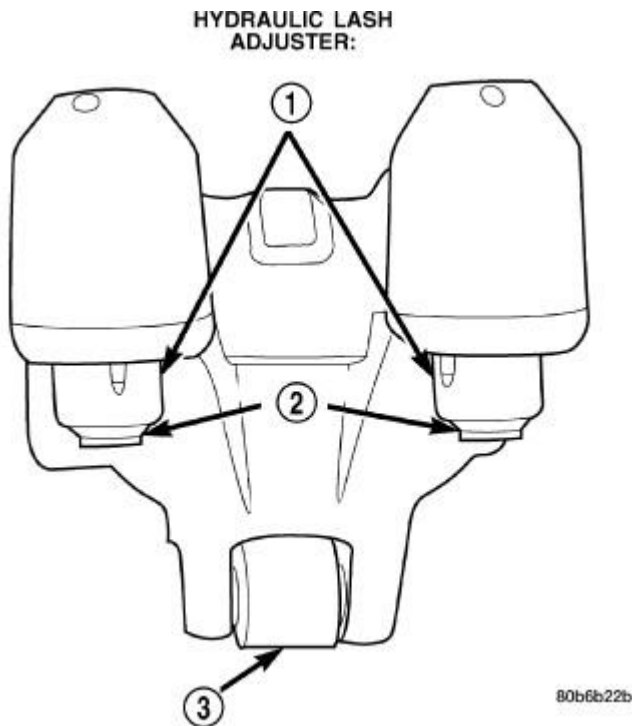

Fig. 177: Rocker Arm Assembly
Rocker arms are made of light weight permanent mold aluminum alloy with a roller (3) type follower operating against the camshaft. Refer to **Fig. 177**. The valve actuating end of the rocker arms are machined to retain hydraulic lash adjusters, eliminating the need for manual valve lash adjustment.